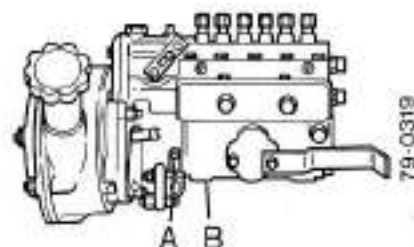

FIGURE 74. FUEL INJECTION
4. **Fan Belt:** Check the belts for the correct tension as shown in Figure 74. Adjust if necessary as follows: